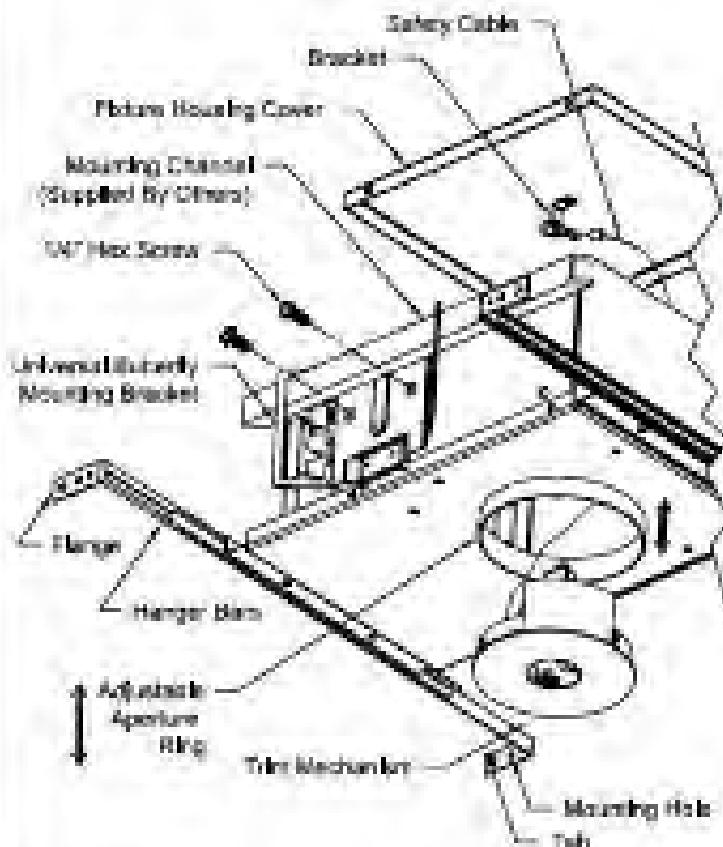
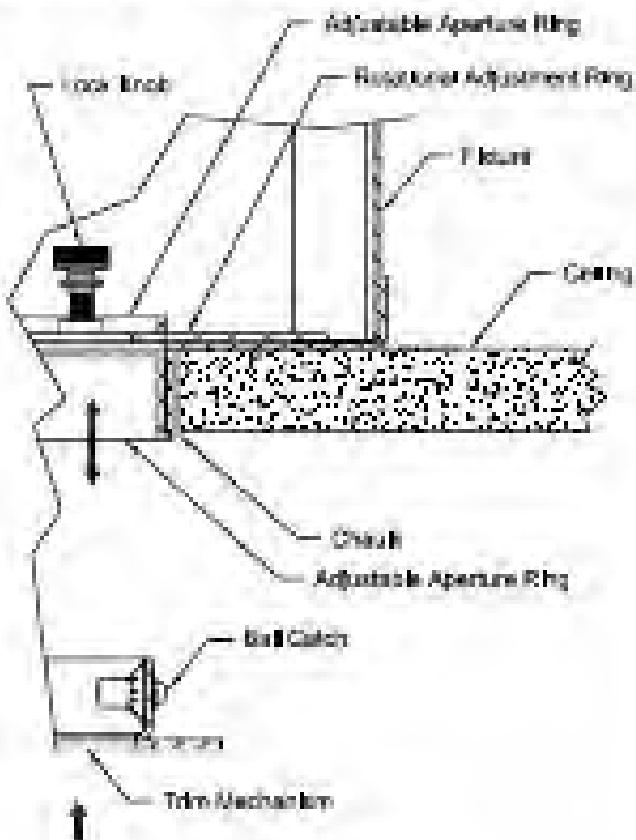

Figure 1
Figure 2
1. Fixture comes equipped with Universal Butterfly Mounting and can take common 1 inch or 1-1/2 inch Back Hori or Backwired Mounting Channels (Supplied By Others). See Fig. 1.
5. Adjust elevation of fixture to Adjustable Aperture Ring Edge will flush with surface of finished ceiling by loosening two (2) 1/4 inch HEX Screws on both Universal Mounting Brackets. See Fig. 1.
6. Tighten two (2) 1/4 inch Hex Screws on both Universal Butterfly Mounting Brackets to secure fixture. See Fig. 1.
7. Install Ceiling drywall up to Adjustable Aperture Ring on fixture. See Fig. 2.
8. Position Adjustable Aperture Ring to be in line with ceiling by lifting up or down. See Fig. 2.
3. Harness Flanges to seat Hanger Bar Tabs in rafters. See Fig. 1.
4. Secure Hanger Bars using one (1) nail in Mounting Hole in each flange.
5. Install Ceiling drywall up to Adjustable Aperture Ring on fixture. See Fig. 2.
6. Position Adjustable Aperture Ring to be in line with ceiling by lifting up or down. See Fig. 1 & Fig. 2.
1. Connect Safety Cable attached to Spherical Bracket on Trim Mechanism (See Fig. 1) to Picture by inserting Safety Cable through opening in Picture and inserting Snap Hook on end of Safety Cable into hole in Bracket attached to Inside of Picture Housing Cover (See Fig. 1).
2. Insert Trim Mechanism into Fixture by pressing firmly to engage Ball Catches, See Fig. 2.